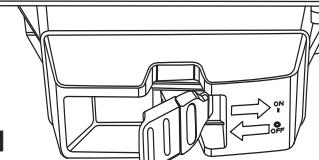

Fig. 50
- NOTE:** To prevent unauthorized use, remove the switch key as shown in figure 50.